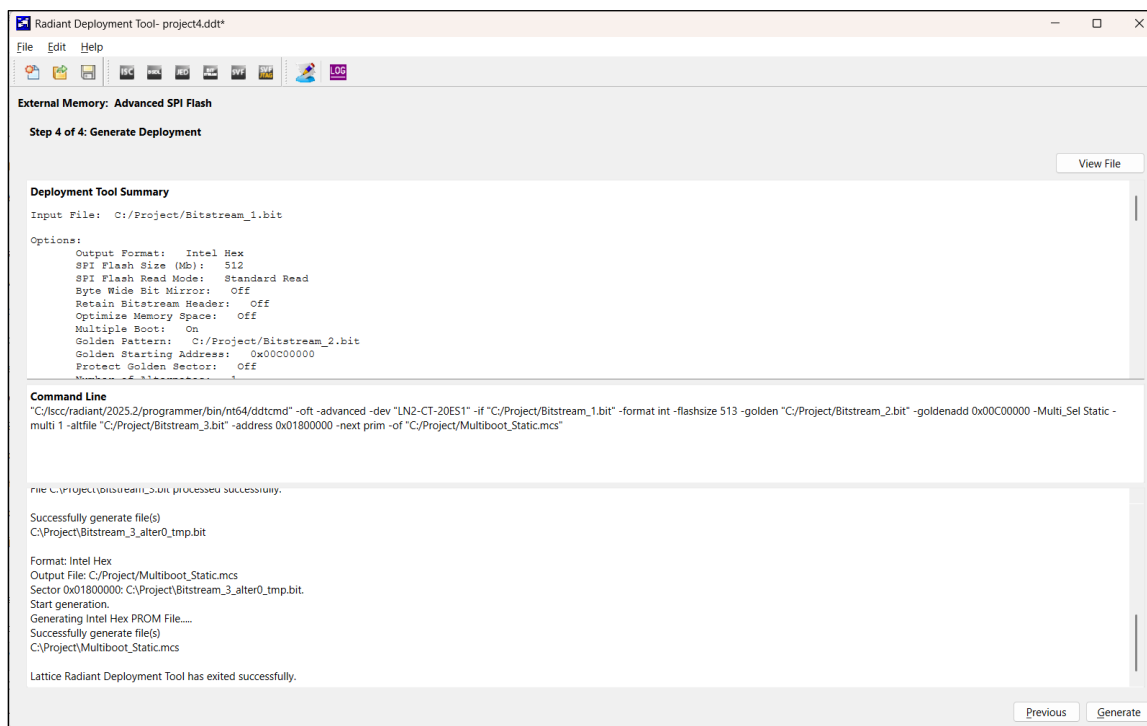

Figure 7.20. Generate Deployment Window
Step 4 of 4: Generate Deployment window (Figure 7.20)